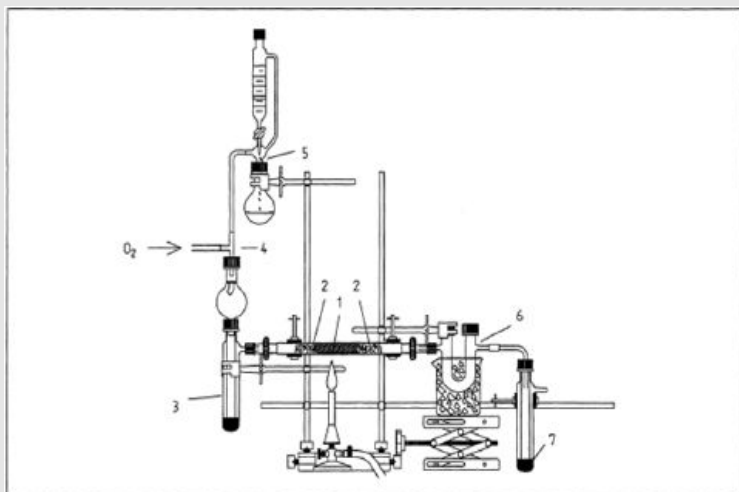

Fig. 1: Schematic illustration of the experimental setup
1. Seal one end of a quartz glass combustion tube (1) with quartz glass wool (2), fill it with platinum-palladium- aluminium-oxide beads.
2. Secure these beads on the other end of the tube with quartz glass wool (2) so that the beads cannot move in the gas flow.
3. Fasten this prepared combustion tube horizontally to two support rods as shown in Fig. 1.